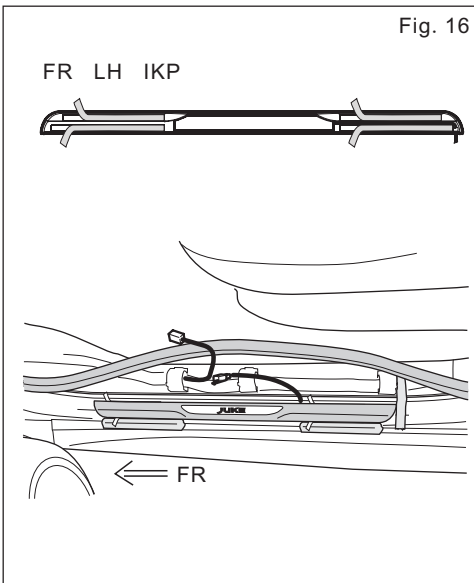

Fig. 16
- e) Pull the pull tab of the double-sided tape liner about 30mm to fold outside of the kick plate. See in Fig. 16.